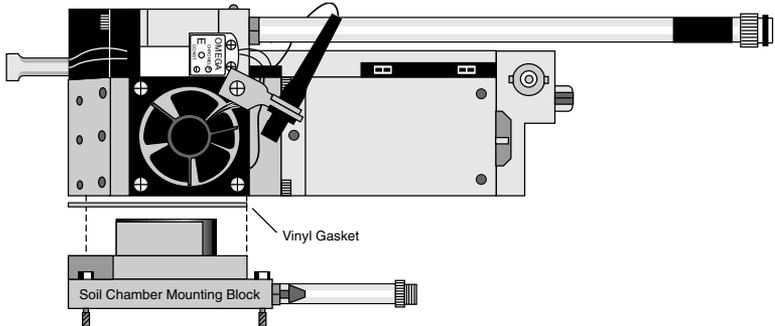

Figure 2-11. Attach the mounting block to the sensor head.
6. Attach the soil chamber mounting block with the 8 hex head cap screws from the previous step. The proper orientation of the mounting block is shown in Figure 2-11. Note the thin vinyl gasket on the top surface of the optical bench (Figure 2-11). This gasket is reusable; it should adhere to the optical bench, but if it becomes detached, be sure to reposition it before attaching the mounting block. Tighten the 8 screws carefully and evenly. *Note that the screw nearest the leaf chamber forms a metal-to-metal seal in the air pathway, and must be tight upon re-assembly of the standard leaf chamber.*